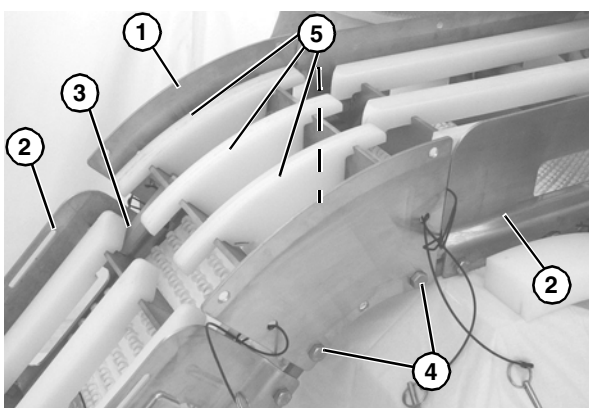

Figure 7
1. Attach upper knuckle (**Figure 7, item 1**) to frame (**Figure 7, item 2**) with hex rods (**Figure 7, item 3**) and bolts (**Figure 7, item 4**).
2. Install wear strips (**Figure 7, item 5**).